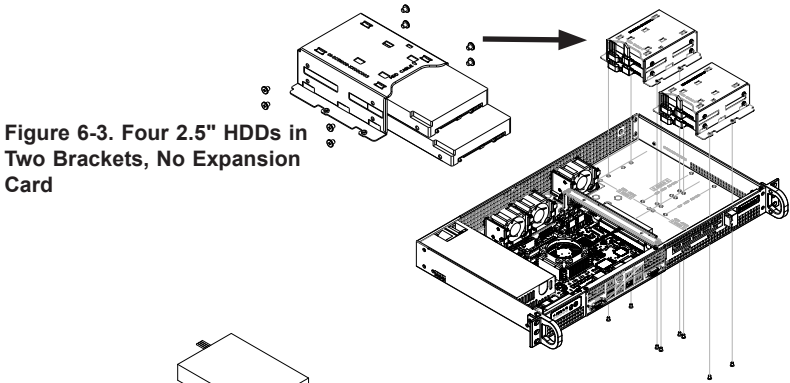

Figure 6-3. Four 2.5" HDDs in Two Brackets, No Expansion Card
One to four 2.5" hard drives may be installed in several different configurations. Refer to Figures 6-3 and Figure 6-5.
3. Place the hard drives and brackets into the chassis as illustrated in Figure 6-3 or Figure 6-5. Orient two or more drives with the cable connections facing the inside of the chassis.